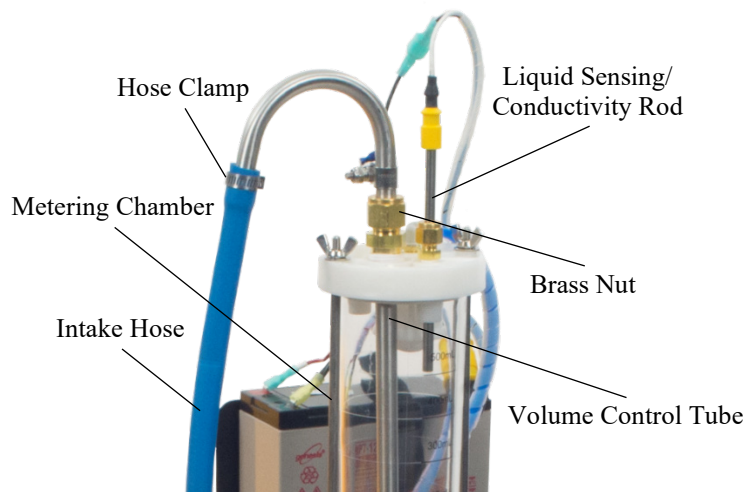

FIGURE 7-2. Conductivity rod and intake hose connection
1. Loosen the brass nut to set the volume control tube to the approximate volume required for collection by aligning the base of the tube with the graduated marking on the metering chamber (FIGURE 7-2). It is best to collect this volume and measure at least once to make sure it matches expectations. If necessary, adjust the tube up or down to obtain the desired collection volume.
2. Set the height of the conductivity rod (FIGURE 7-2). The bottom of the conductivity rod must be higher in the metering chamber than the volume control tube (at least 1.3 cm (0.5 in)), but below the bottom of the float valve barrier.
6. Connect the top of the intake hose to the volume control tube and tighten the hose clamp (FIGURE 7-2).